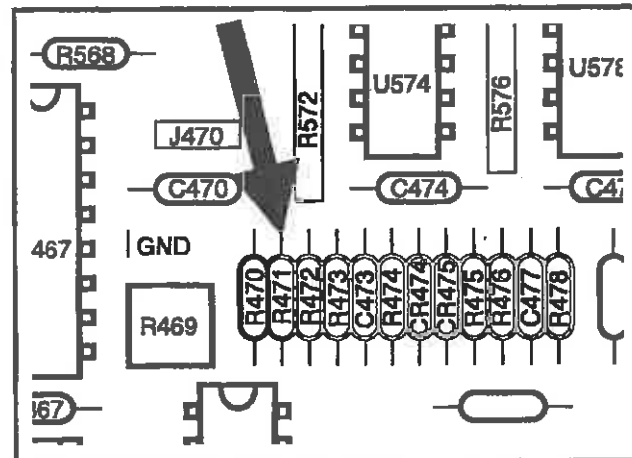

Fig. 5-15. Where to attach the probe to adjust R469.
- b. Attach the probe to R471 as shown in Fig. 5-15.